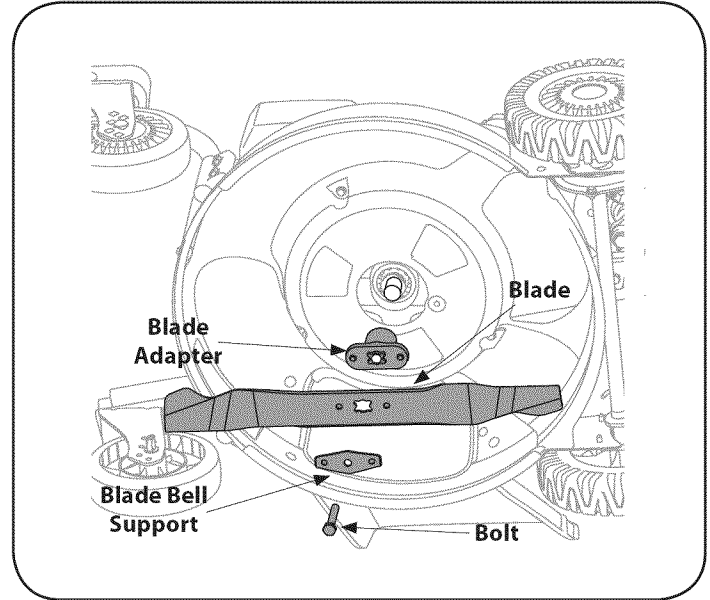

Figure 18
2. Remove the bolt and the blade bell support which hold the blade and the blade adapter to the engine crankshaft. See Figure 18.